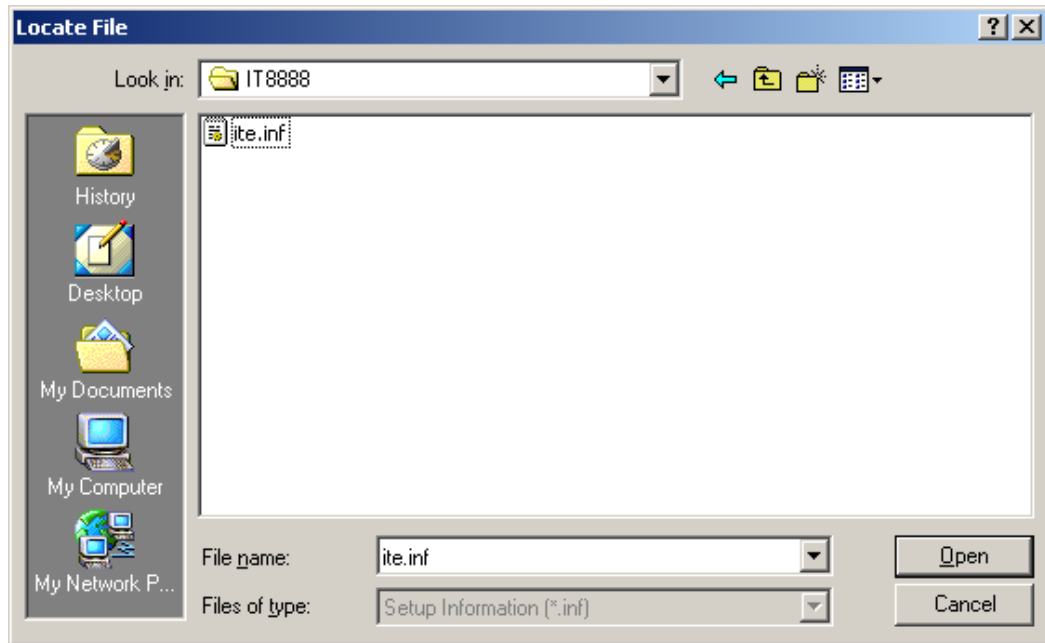

Figure 7-31: Location Browsing Window
**Step 8:** Select "X:\IT8888" directory in the location browsing window, where "X:\\" is the system CD drive (Figure 7-31).